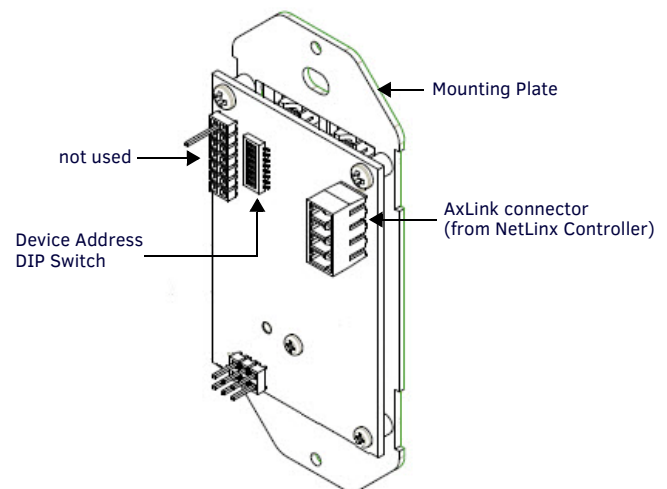

FIG. 4 MET-6N - REAR COMPONENTS
- Locate the 8-position mini-DIP switch on the rear panel (see FIG. 4).
FIG. 4 shows the basic rear components of the MET-6N keypads: